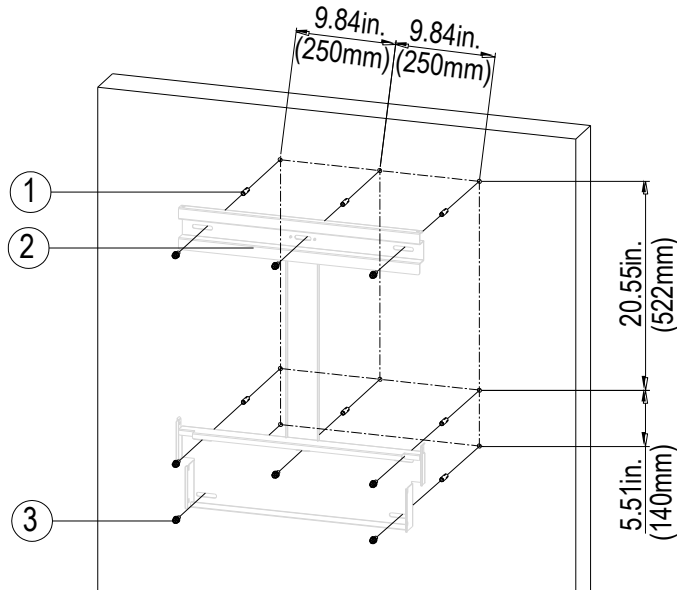

Figure 3.5 – Inverter Wall Bracket Mounting
1. Mark the 8 holes on the load-bearing surface using the available mounting bracket as a template (see Figure 3.5).
3. Secure the bracket to the wall using eight M8X25 bolts (available in accessory box). See Figure 3.5.